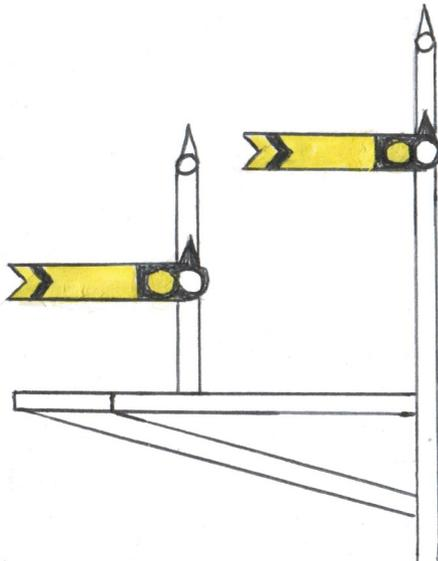

FIGURE 12
Turning to down branch traffic, this is controlled by signals 2, 3, 6 and 7. The starter 6 alongside 4 is essential to indicate which route has been set for the departing down train. The distant (1) does not clear for branch traffic because in most cases branch traffic must slow down to take the diverging pointwork. Use of a splitting distant (Figure 12) can only be justified where through branch trains are permitted take the diverging pointwork at significant speed. The case for an advance starter (7) is weaker, especially when the branch traffic is light or the block to the next box is short.